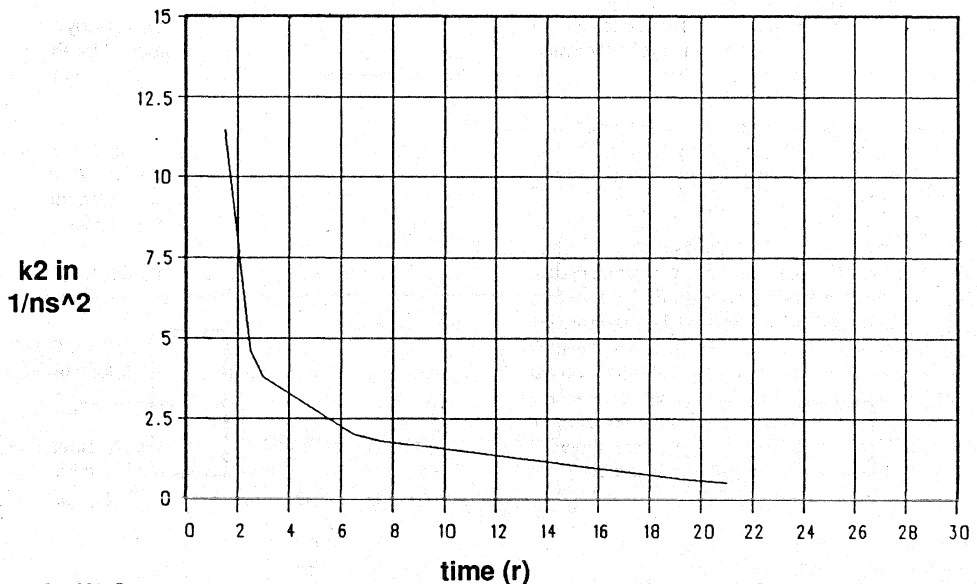

Figure 4. K2 Constant
The time from  $\Delta_0$  until the dot density equals zero was defined to be the "time to metastable release" or simply time(r). The relationship between  $k_2$  and time(r) is given below in (5), and shown graphically in Figure 4. Recall that  $MAX=2.5 \times 10^6$  and  $a=\log(e)$ .